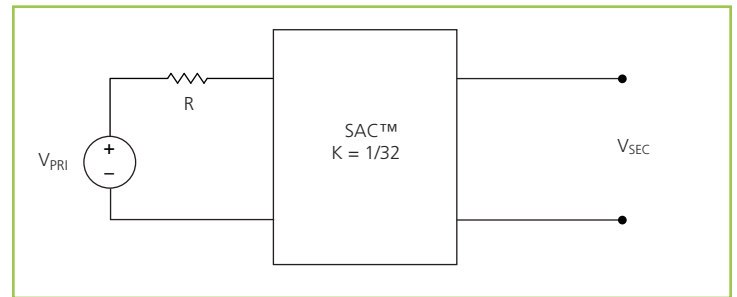

Figure 15 — K = 1/32 Sine Amplitude Converter™ with series primary resistor
The use of DC voltage transformation provides additional interesting attributes. Assuming that R_{SEC} = 0 Ω and I_Q = 0 A, Eq. (3) now becomes Eq. (1) and is essentially load independent, resistor R is now placed in series with V_{PRI} as shown in Figure 15.
Assuming that $R = 1 \Omega$, the effective R as seen from the secondary side is $0.98 \text{ m}\Omega$, with $K = 1/32$ as shown in Figure 15.